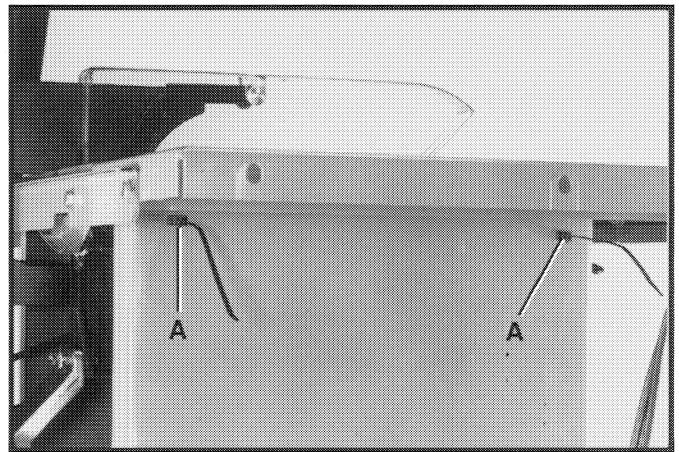

Fig. 36
1. Insert ends of cable ties (A) Fig. 36, into holes on top side of saw cabinet. **NOTE:** If switch was mounted to far right front hole in saw table, insert ends of cable ties into holes on other side of saw cabinet.